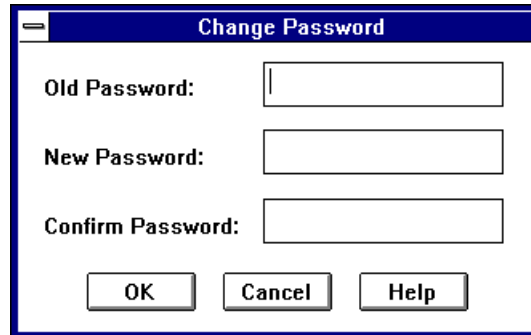

Figure 8-1. Change Password Dialog Box
- 2 Select **Change Password** from the View menu. The Change Password dialog box appears, as shown in Figure 8-1.
- 1 Select **Change Password** from the View menu. The Change Password dialog box appears, as shown in Figure 8-1.